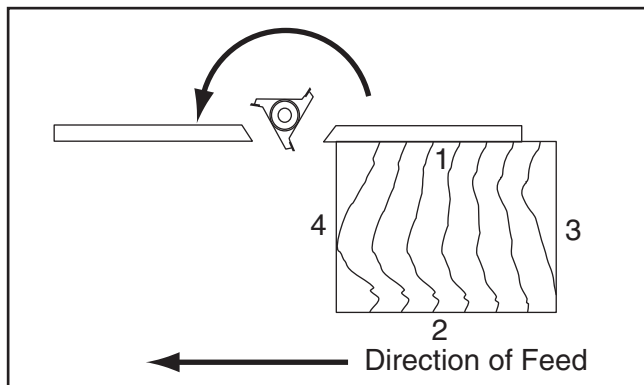

Figure 30. Starting perimeter cutting with end grain cut.
1. Cut workpiece sides (1 & 2) with end grain *first* (see **Figure 30**).
2. Cut sides (3 & 4) *with* grain last to make parallel with sides in previous step, or in sequence, as shown in **Figure 30**.